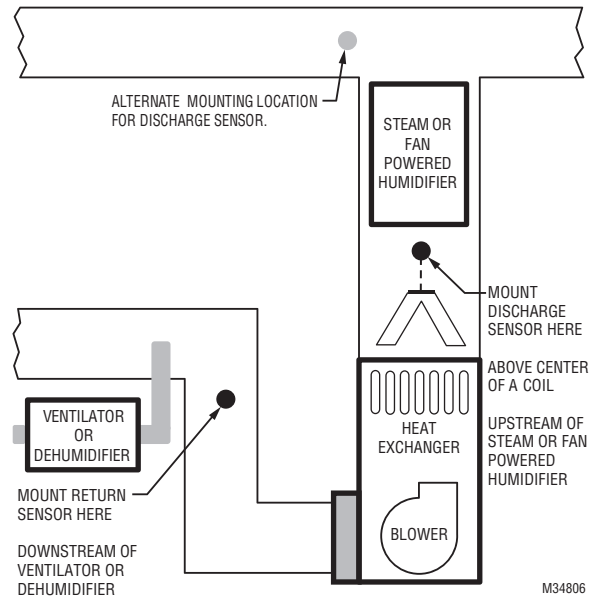

Fig. 9.
2. When possible, mount the Discharge Air Temperature Sensor upstream of a Steam Humidifier, a Fan Powered Humidifier or a Dehumidifier that is ducted to the supply. See Fig. 9–10.
3. If space does not allow a Discharge Air Temperature Sensor upstream of a Steam Humidifier or Fan Powered Humidifier, mount the Discharge Air Temperature Sensor downstream of the Humidifier. See Fig. 9.